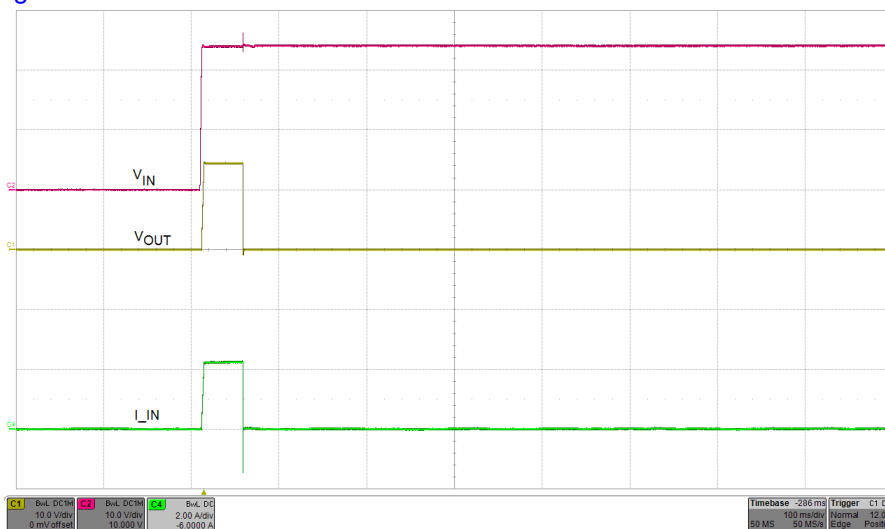

Figure 4-4. J5/J12 = 1-2 Position, Current Limit (2.23 A), Latch-Off Mode
11. Enable the power supply and verify the current limit magnitude the latch-off fault response waveform as shown in the Figure 4-4.